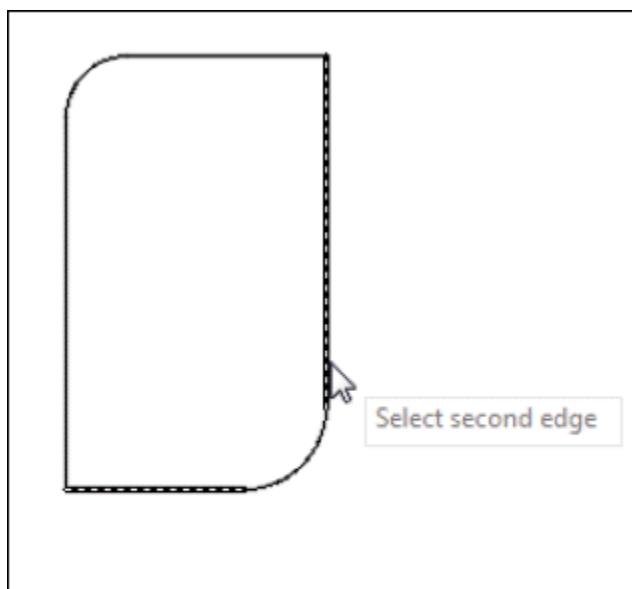

Figure-48. Selecting second edge
- You need to select the two non-parallel (going to intersect) edges to create the extension. Click on the edge to select; refer to Figure-48.